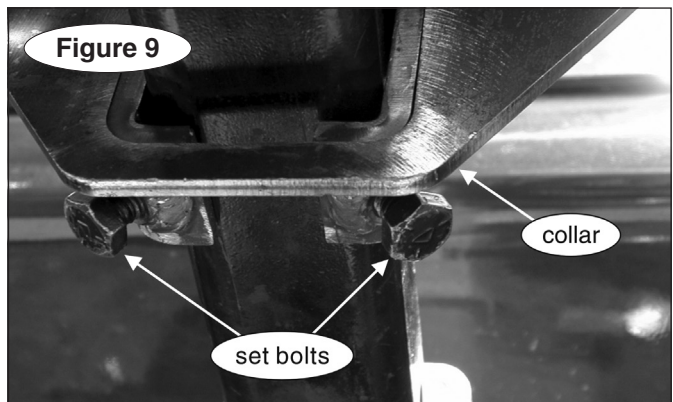

Figure 9
9. IMPORTANT! Slide the Tow Defender collar (Figure 9) up or down the tow bar stinger (or hitch ball extension), so that the Tow Defender screen appears taut (Figure 10). Now slide the collar (Figure 9) back one inch toward the towed vehicle. **This slack is necessary for sharp turns.** If the fabric is too taut, over time the fabric will fail and tear at the seams.
10. With the collar in the correct position, tighten the two set bolts at the bottom of the collar (Figure 9) with a 9/16" wrench, until the collar is fixed in place.